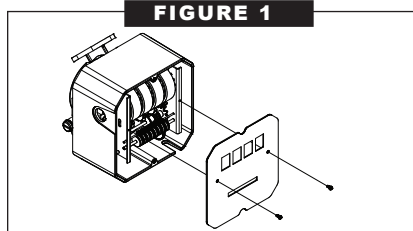

FIGURE 1
2. Remove the two screws that hold the faceplate in place and remove faceplate. (Figure 1)